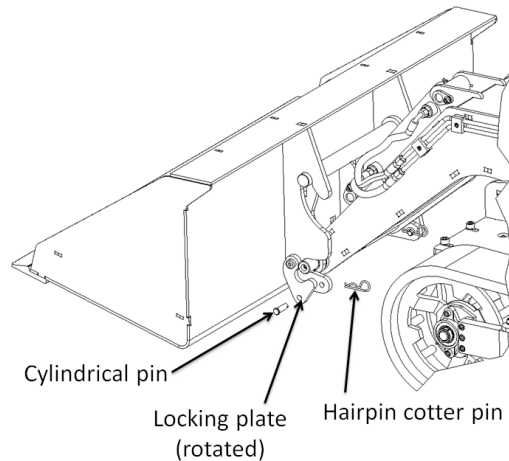

Figure 6 : Removing the bucket - Step 2
2. Remove the 2 hairpin cotter pins and the 2 cylindrical pins and disengage the locking plate (see Figure 6).